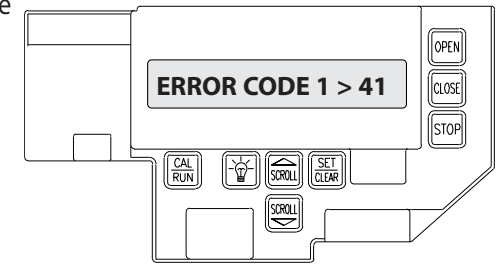

Fig. 6C
The error code memory stores the last 10 error codes in sequence. Once 10 codes are stored, the oldest code is erased to make room for the newest code. These codes are displayed in calibration mode. The display will flash the number of the error code and the 2-digit error code followed by a description of the error code. **Fig. 6C.**
1. Press the CAL/RUN key to enter the Cal Mode (**Fig. 6C**).